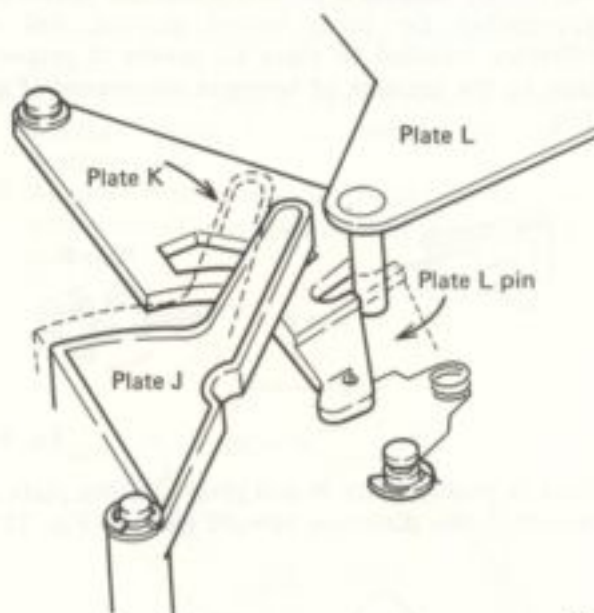

Fig. 17
2. Since plate J above plate F also moves, plate K is pulled disengaging the pin on plate L (Fig. 17).